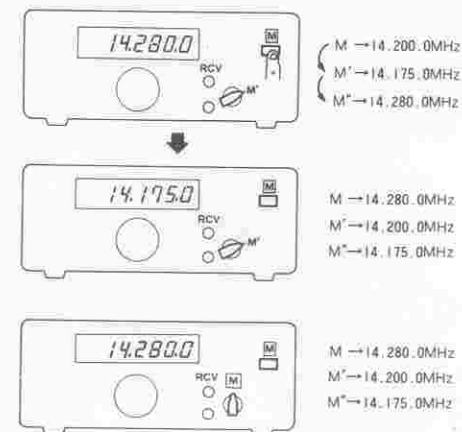

Fig. 9
**Memory to Memory** (See Fig. 9)